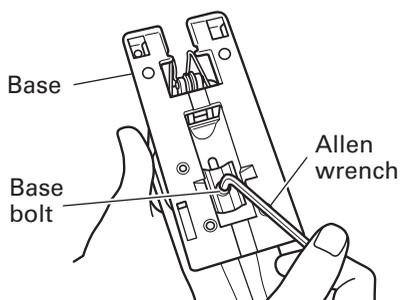
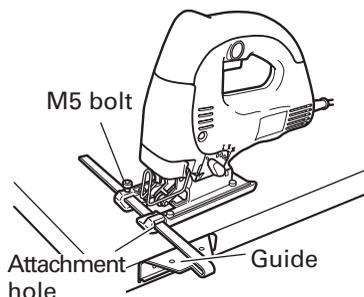

Fig. 11
Fig. 13
- (1) Loosen the base bolt allen wrench attached on base. (Fig. 11)
- (3) Attach the guide by passing it through the attachment hole on the base and tighten the M5 bolt. (Fig. 13)
- (4) Set the orbital position to "0".
**NOTE:** To ensure accurate cutting when using the Guide (Fig.11), always set the orbital position to "0".
- (1) Loosen the base bolt by allen wrench attached on base and move the base fully forward. (Fig. 11, 12)
- (3) Tighten the M5 bolt again. (Fig. 11)
- (1) Remove the allen wrench from the base.
- (2) Move the base fully forward. (Fig. 11, 12)